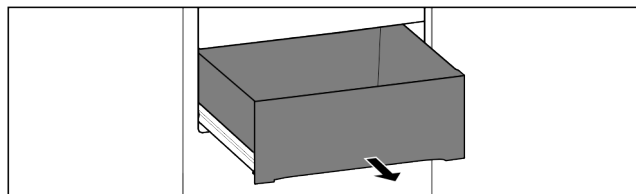

Fig. 56
- ☐ Drawer is completely pulled out (see Fig. 56).